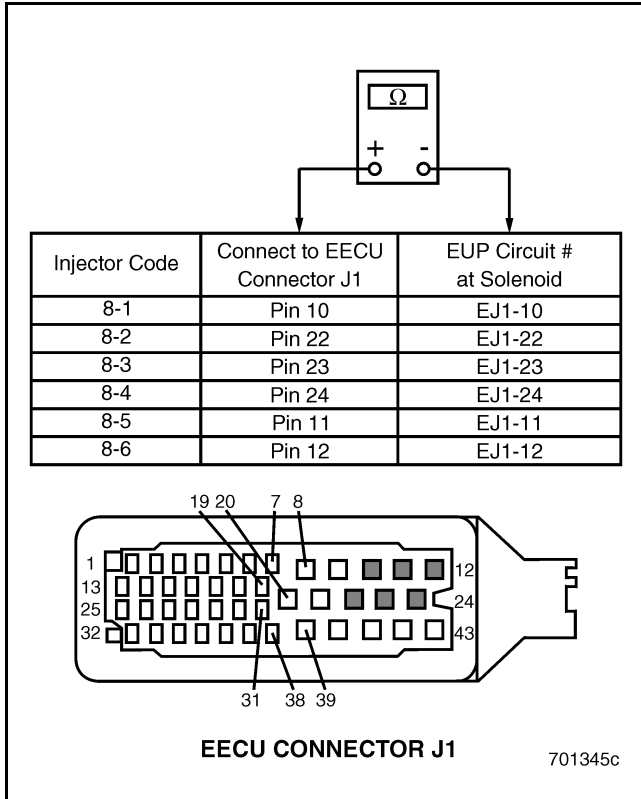

Figure 746
4. Check for continuity between the suspect EUP Solenoid harness connector and EECU harness connector J1 (see chart in Figure 746).